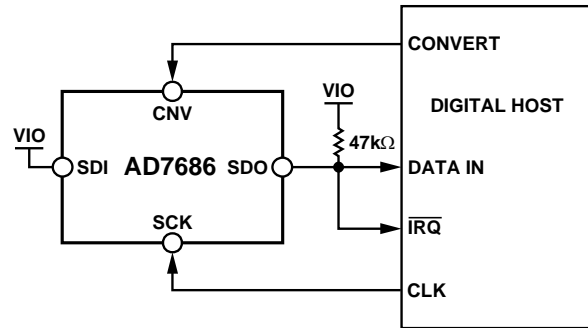
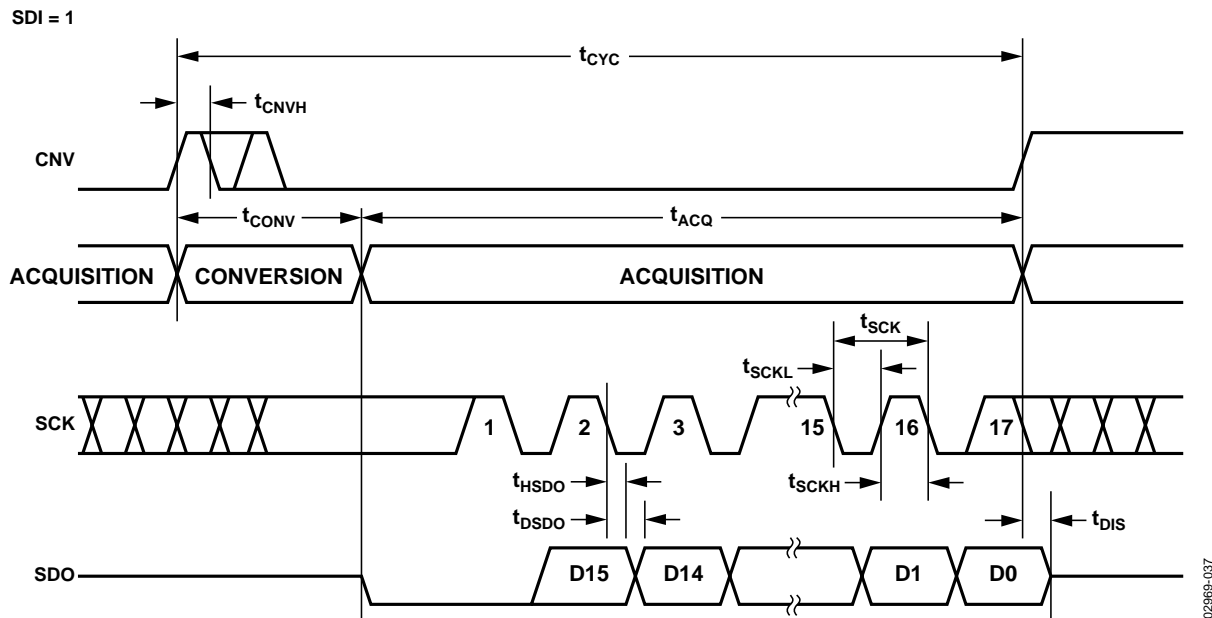
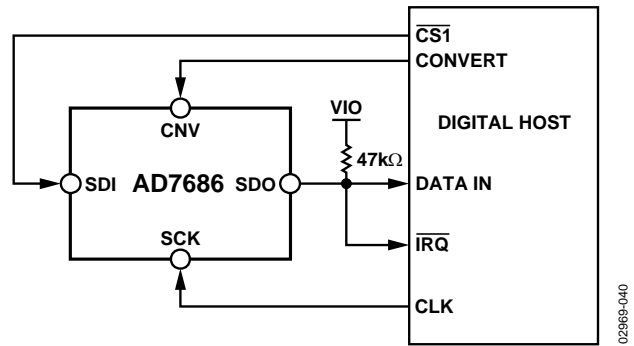
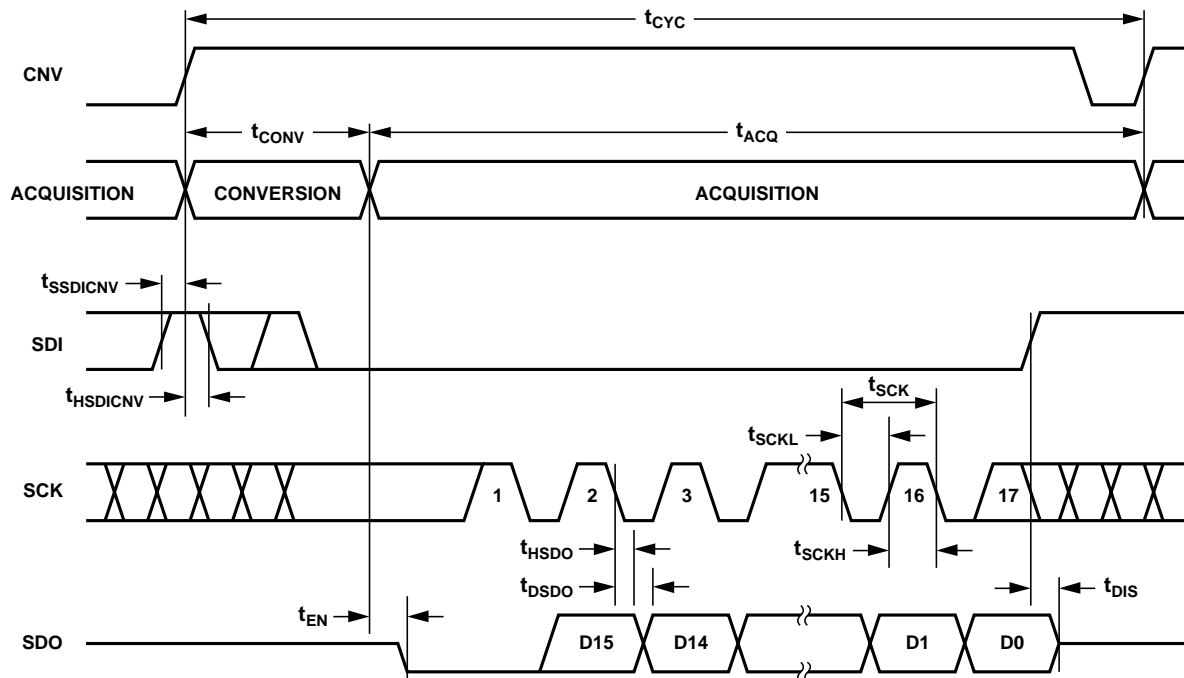

Figure 35. \overline{CS} Mode 3-Wire with BUSY Indicator Connection Diagram (SDI High)
Figure 36. \overline{CS} Mode 3-Wire with BUSY Indicator Serial Interface Timing (SDI High)
Figure 39. $\overline{\text{CS}}$ Mode 4-Wire with BUSY Indicator Connection Diagram
Figure 40. $\overline{\text{CS}}$ Mode 4-Wire with BUSY Indicator Serial Interface Timing
- In the \overline{CS} mode, if CNV or SDI is low when the ADC conversion ends (Figure 36 and Figure 40).
The connection diagram is shown in Figure 35 and the corresponding timing is given in Figure 36.
The connection diagram is shown in Figure 39 and the corresponding timing is given in Figure 40.